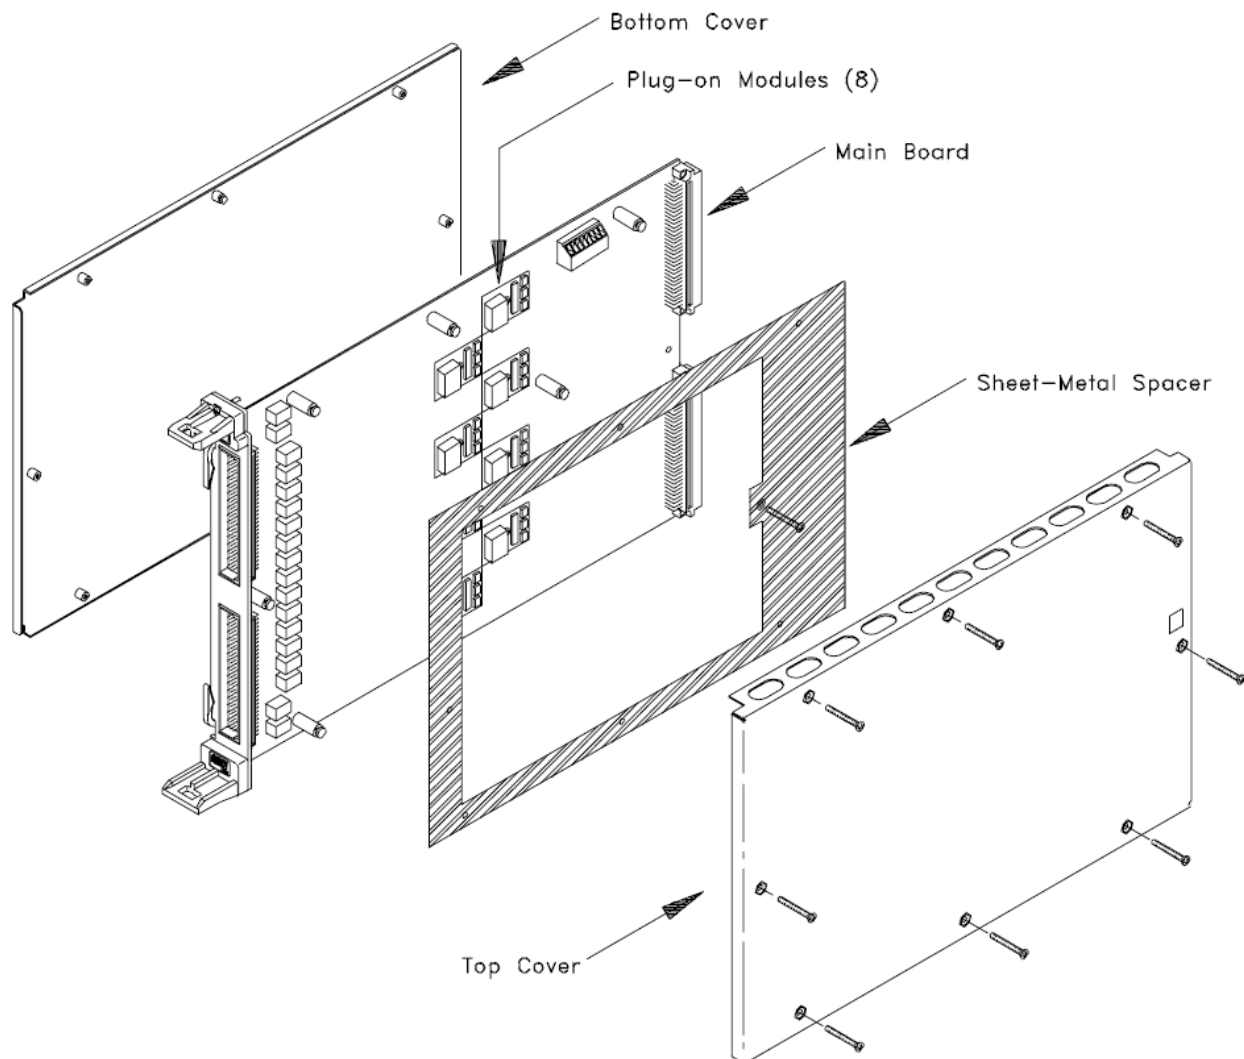
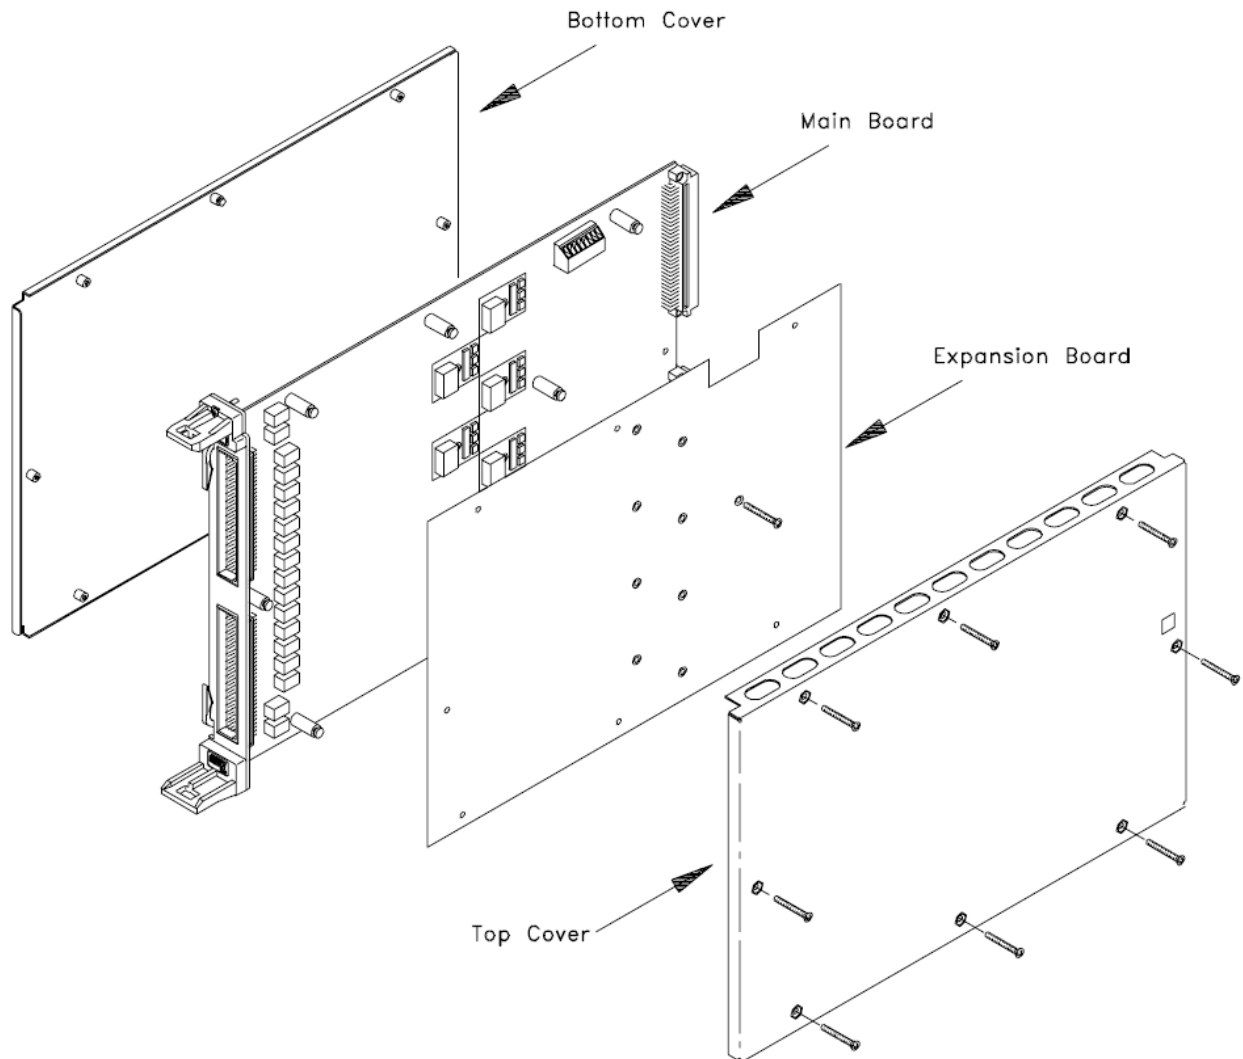

Figure E-1 8-Channel Disassembly
Figure E-2 Plug-on Channel Locations
Refer to Figures E-1 and E-2 during these procedures.
- 1 Remove the top cover. Refer to Figure E-1.
Install the hold down screw through the expansion board and secure with a T10 Torx Driver. Refer to Figure E-2.
Refer to Figures E-1 and E-2 during these procedures
- 2** Remove the screw holding the sheet-metal spacer (Figure E-1) or expansion board (Figure E-2). Remove the spacer or expansion board.